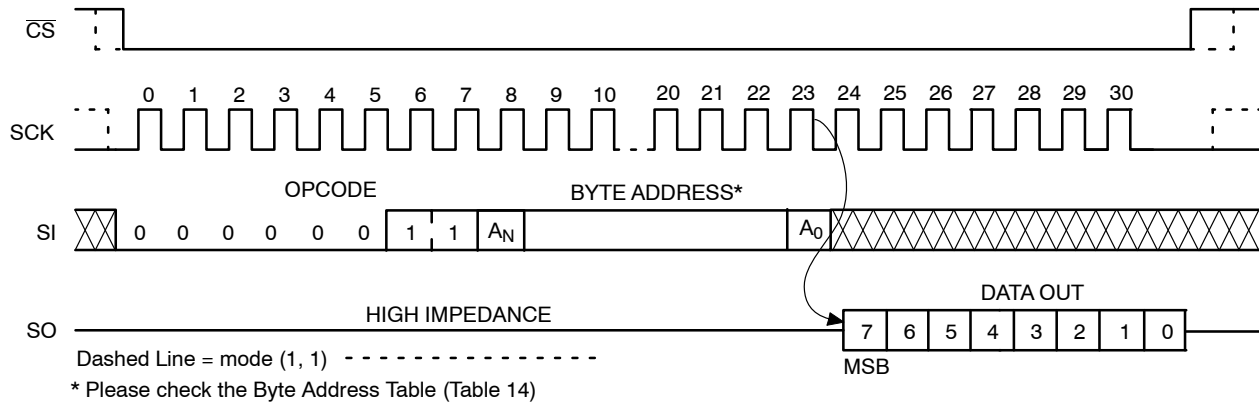

Figure 9. READ Timing
After receiving the last address bit, the CAT25256 will respond by shifting out data on the SO pin (as shown in Figure 9). Sequentially stored data can be read out by simply continuing to run the clock. The internal address pointer is automatically incremented to the next higher address as data is shifted out. After reaching the highest memory address, the address counter “rolls over” to the lowest memory address, and the read cycle can be continued indefinitely. The read operation is terminated by taking  $\overline{\text{CS}}$  high.
Reading the additional 64-byte Identification Page (IP) is achieved using the same Read command sequence as used for Read from main memory array (Figure 9). **The IPL bit from the Status Register must be set (IPL = 1) before attempting to read from the IP.** The [A5:A0] are the address significant bits that point to the data byte shifted out on the SO pin. If the  $\overline{\text{CS}}$  continues to be held low, the internal